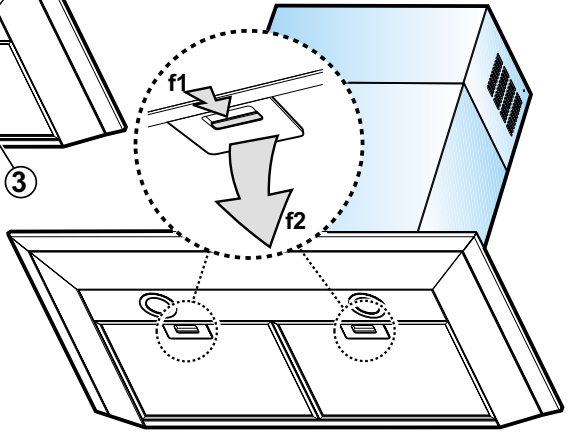

Fig. 2
## Grease Filters (see Fig.2)
## Carbon Filters (see Figs.2 and3)
- b. Remove the grease filters (Fig. 2).